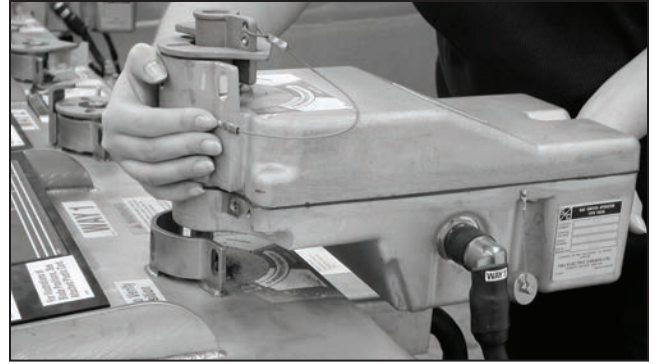

Figure 127. Place the motor operator over the operating shaft on the gear.
STEP 1. Place each motor operator over the operating shaft on the gear. See Figure 127.